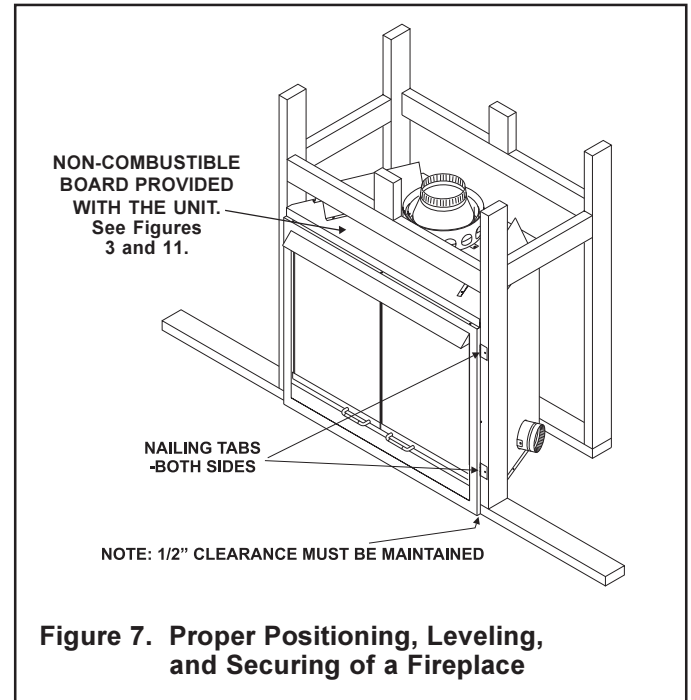

Figure 7. Proper Positioning, Leveling, and Securing of a Fireplace
- Place the fireplace into position (see Figure 7).